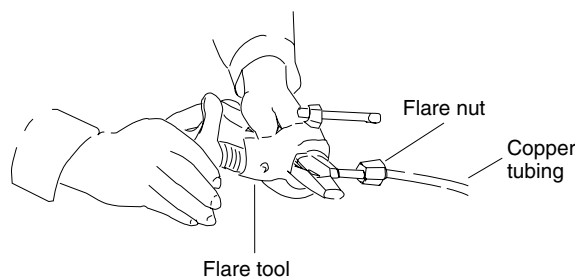

Fig. 5-3
- (3) Remove the flare nut from the unit and be sure to mount it on the copper tube.
- (4) Make a flare at the end of copper tube with a flare tool.* (Fig. 5-3)